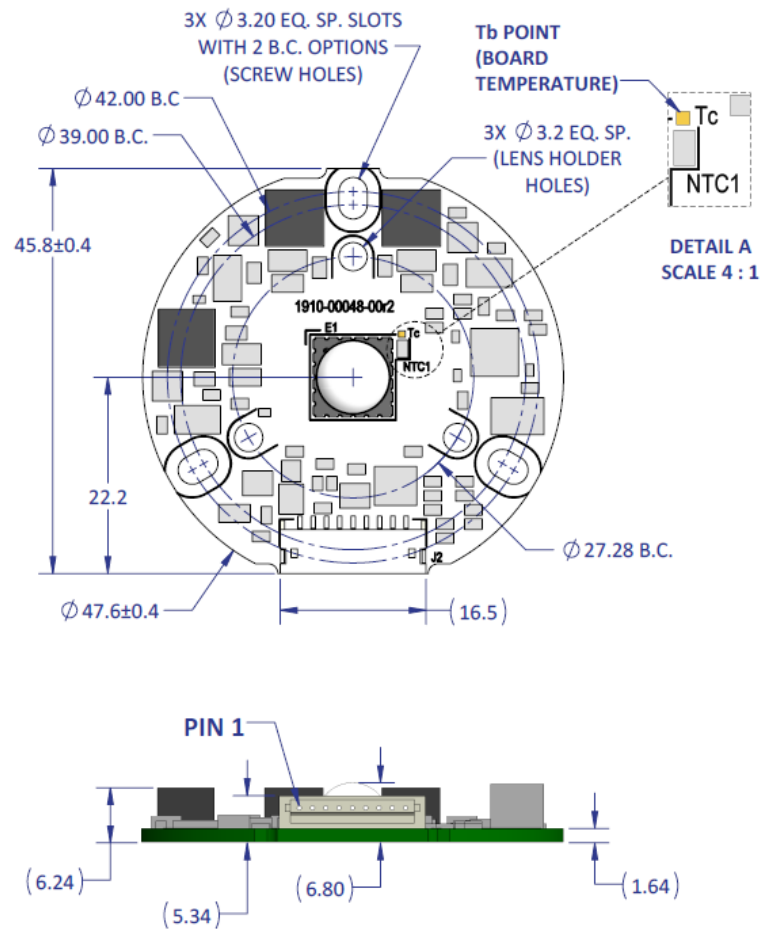

Figure 13: Mechanical dimensions of LuxiTune light engine – without secondary lens
4. The temperature measurement point on the MCPCB, NTC1 is located next to the LED emitter. See figure 13. NTC1 should not exceed  $85^{\circ}\text{C}$ .
The standard LuxiTune light engine is sold with supported secondary optics optimized for color mixing and efficiency. The following mechanical dimensions are provided as a guidance for luminaire design. The 3-legged lens holder sits in the 3 holes shown in Fig 13.
The board thermal reference point referred to as NTC1 is marked in Fig. 13 and is used to control the performance of the light engine. In the case of insufficient cooling, the light engine will be protected by the driver. The driver continuously monitors the temperature at NTC1 and will reduce the power in steps of 10% when the temperature rises above 85°C. At 105°C the light engine will be turned off.